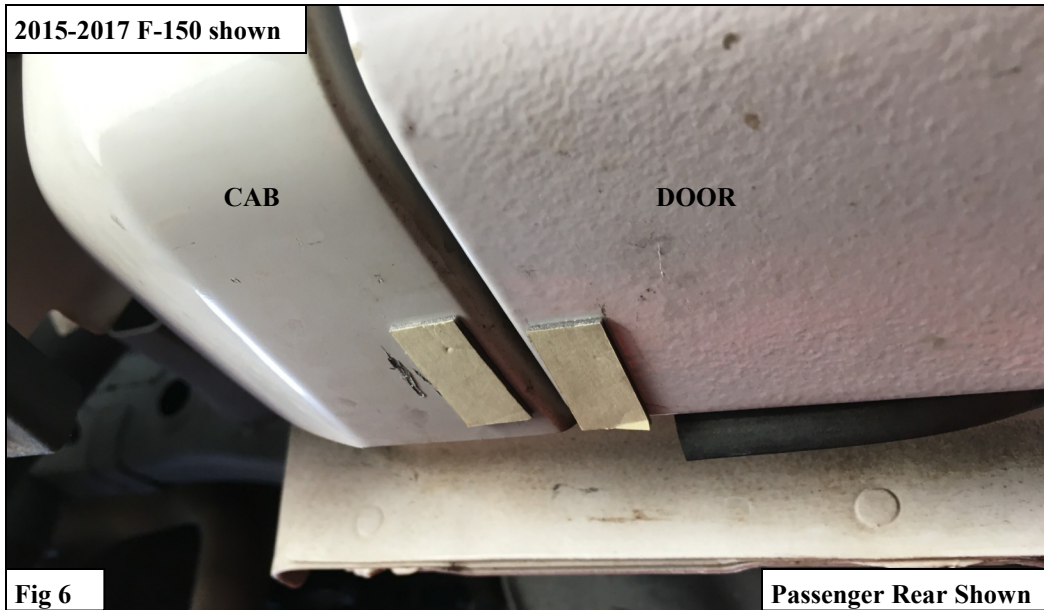

**Fig 5**
9. Press the End Cap Assembly onto the Inner Plastic Mount (3-4). This should be a press-in fit. **See Figure 5.** *Note– make sure the tabs on the End Cap (1-2) line up with the tabs on the Inner Plastic Mount (3-4).*